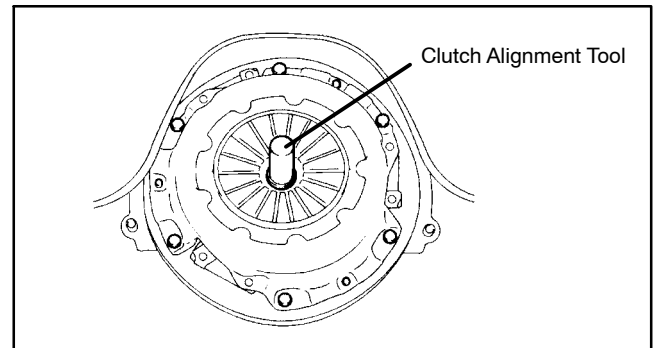

Figure 21
1. Insert clutch alignment tool (see Special Tools) in flywheel pilot bearing hole to keep clutch disk from falling off (Fig. 21).